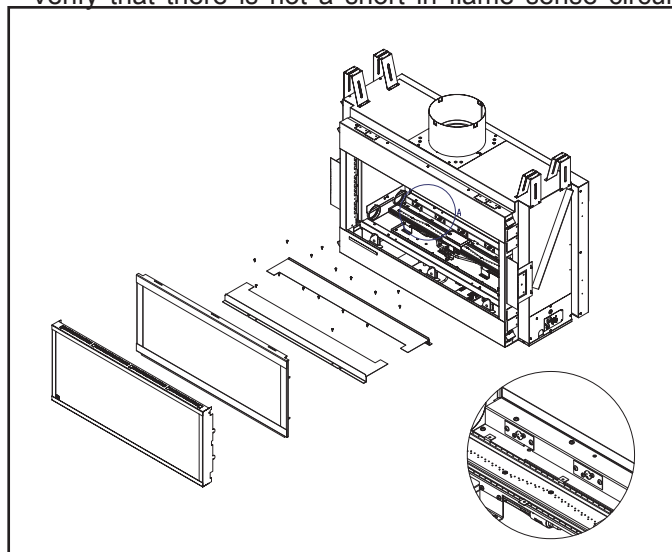

Figure 4.5 Replace Light Bulbs
7. Reinstall 6 screws along edge of burner. Overtightening may cause distortion of screen. See Figure 4.5.